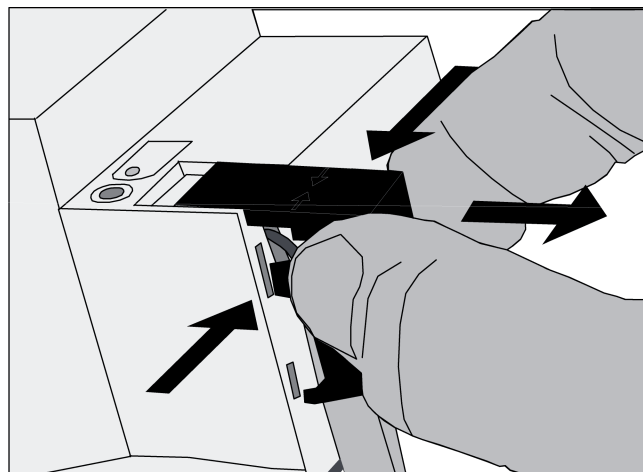

Figure 7: Removing the cover
- Press the cover to the side and pull it off (figure 7).